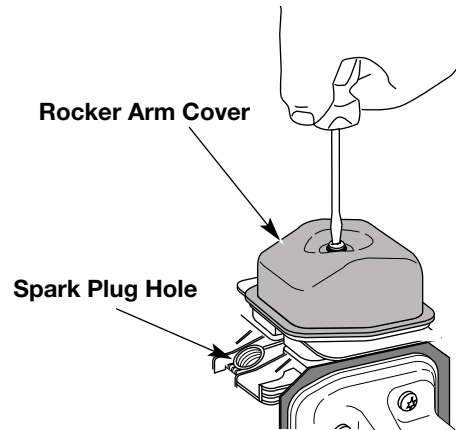

Fig. 41
7. Clean dirt from around the rocker arm cover. Remove the screw holding the rocker arm cover with a large flat blade screwdriver or Torx T25 bit (Fig. 41). Remove the rocker arm cover and gasket.
- The piston is at the top of its travel while looking in the spark plug hole (Fig. 41).